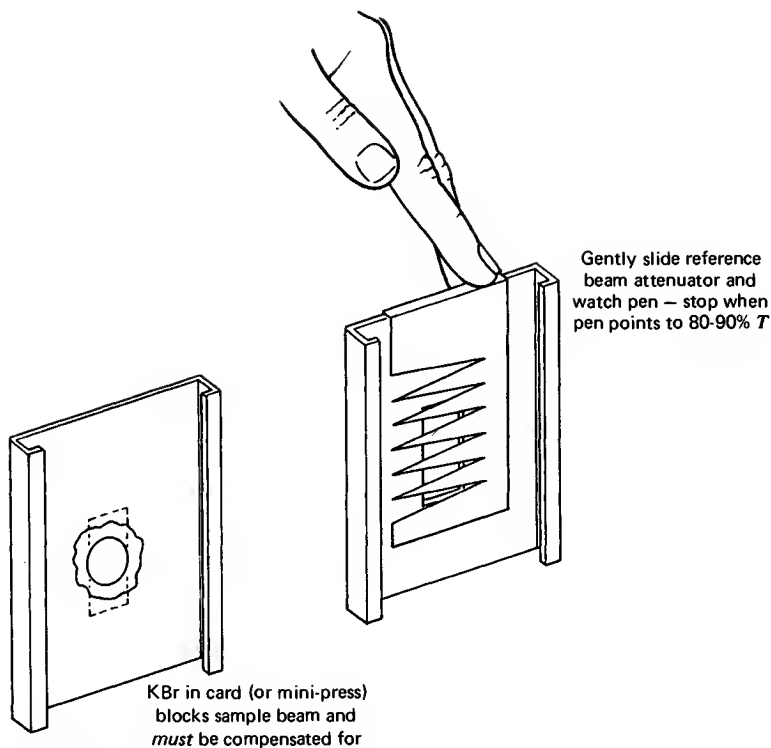

Fig. 129 Using a reference beam attenuator with a KBr window.
1. Cut and trim an index card so that it fits into the **sample beam aperture** (Fig. 129).
Usually there's not much more to adjusting the 100% control than is coming up in items 7 through 9, unless your sample, *by its size alone*, reduces the amount of IR reaching the detector. This really shows up if you've used the Mini-Press, which has a *much smaller opening* than that of the opening in the reference beam. So you're at a disadvantage right from the start. The 100% control mopes around at, sometimes, much less than 40%. That's terrible, and you have to use a **reference beam attenuator** (Fig. 129) to equalize the